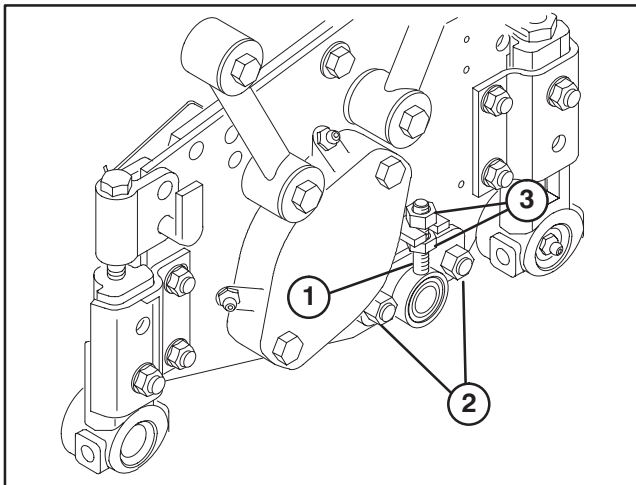

Figure 4
6. Loosen the two locknuts securing the bedbar adjuster to the cutting unit side plate (Fig. 4).
7. Adjust nuts to move bedbar adjuster up or down until paper is cut along entire bedknife surface, when bedknife adjustment knob is adjusted to no more than two clicks beyond first contact of reel bedknife (Fig. 4).